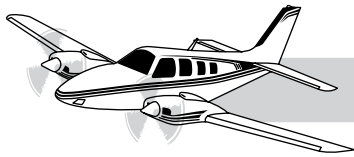

Figure 10-2. Wing Deice Boots
- Leading edges of the wings inboard and outboard of the engine nacelles (Figure 10-2)